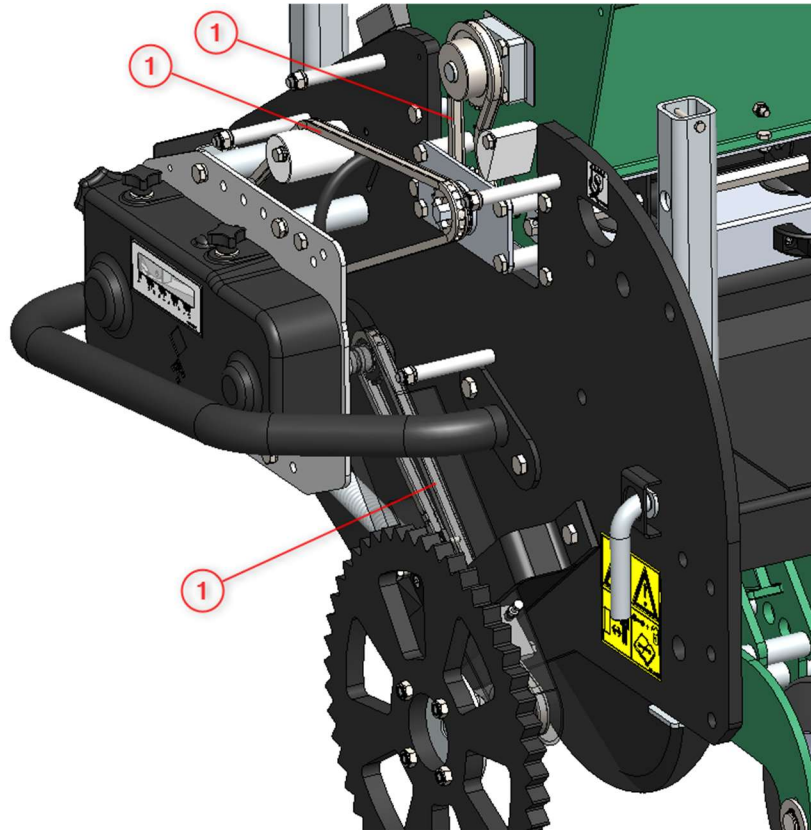

Fig. 12
The only external lubrication points on the Genesis seeder are the drive chains (1) which are situated behind the covers of the machine. (Fig.12)